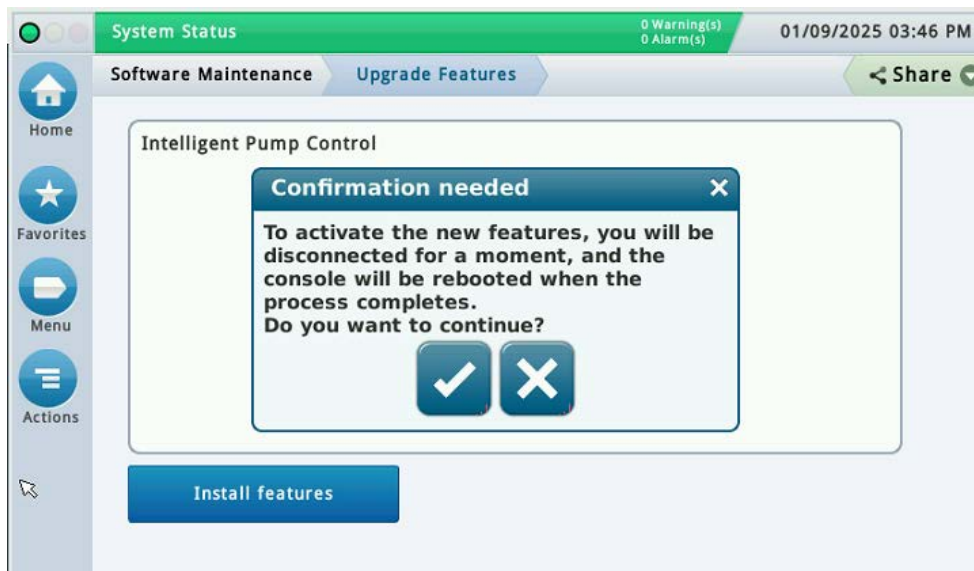

Figure 21. Confirm Feature Installation Pop Up Message
4. Touch the **Install Features** button to start the installation process. A install confirmation pop up appears in the screen, touch the check (OK) button (see Figure 21). An installation complete message will appear at the bottom of the Install features screen when the software install has completed.